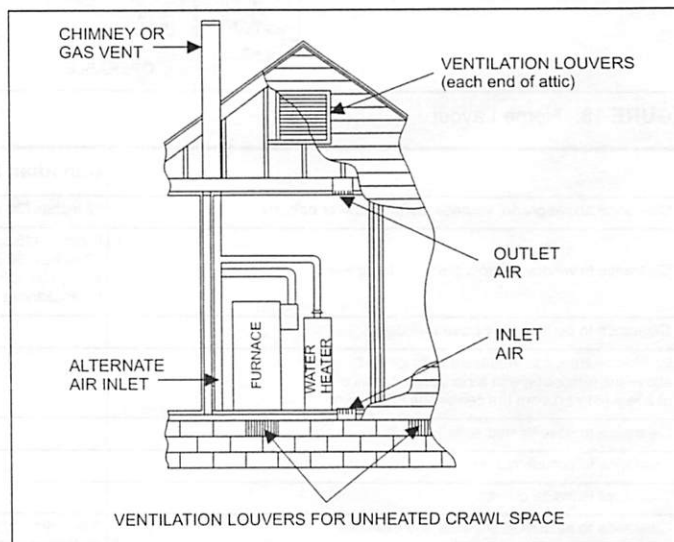

FIGURE 20: Alternate Air Intake, Air Outlet and Chimney Connections
**IMPORTANT:** The vent must be installed with the following minimum clearances as shown in Figure 20, and must comply with local codes and requirements.